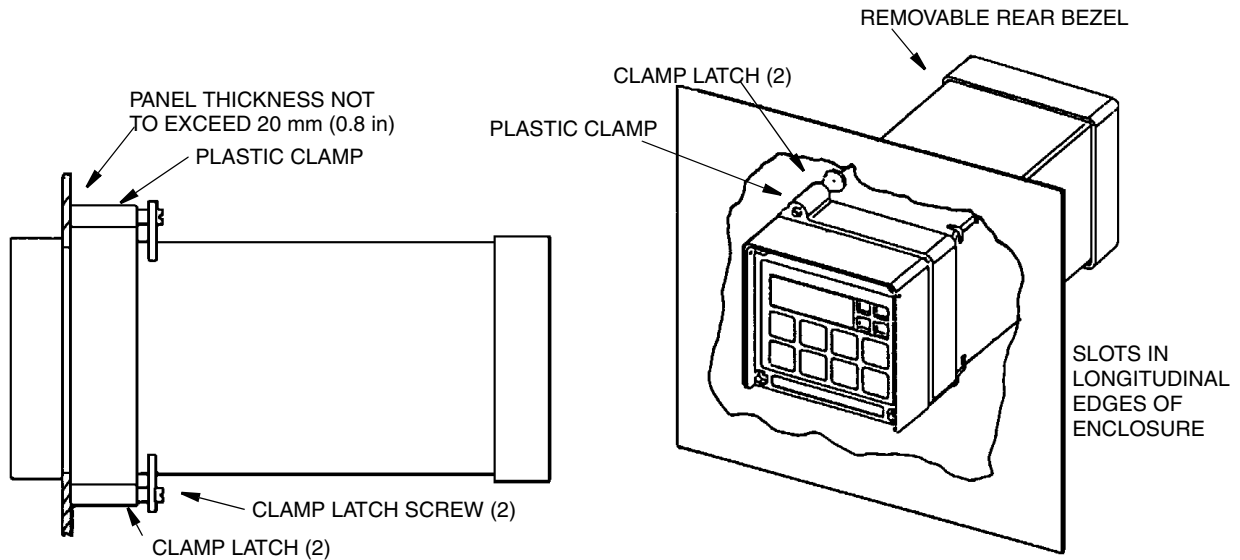

Figure 4. Mounting to Panel - Metal Enclosure
3. From rear of panel, slide plastic clamp onto enclosure until clamp latches (two) snap into two opposing slots on longitudinal edges of enclosure. See Figure 4.
4. Tighten screws (CW) on clamp latches until enclosure is secured to panel.